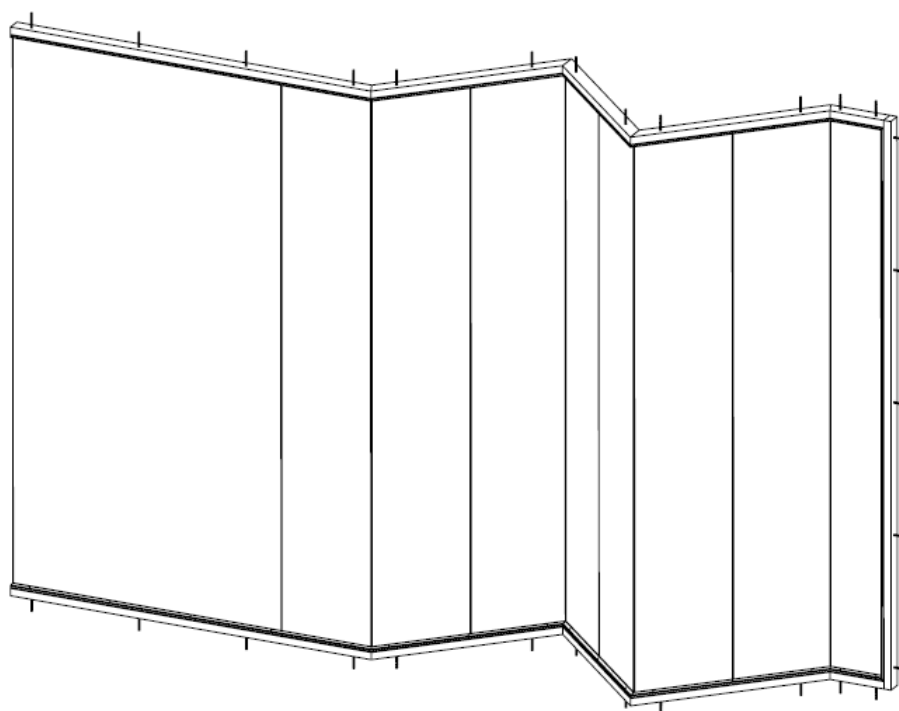

Figure 4: Butt-joint glazing with angles, designed with glass joints
- Butt-joint glazing with angles and without vertical mullions (Figure 4)